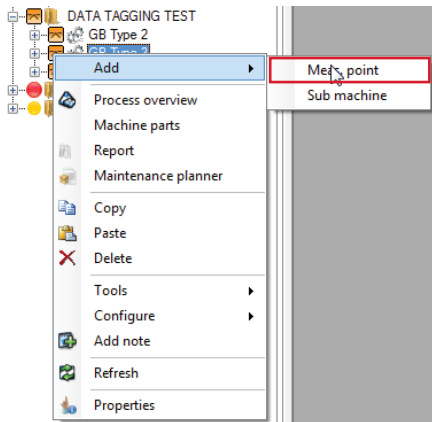

Fig. 7. Add a measurement point.
- Go to the needed machine and add a measurement point (→ **fig. 7**).